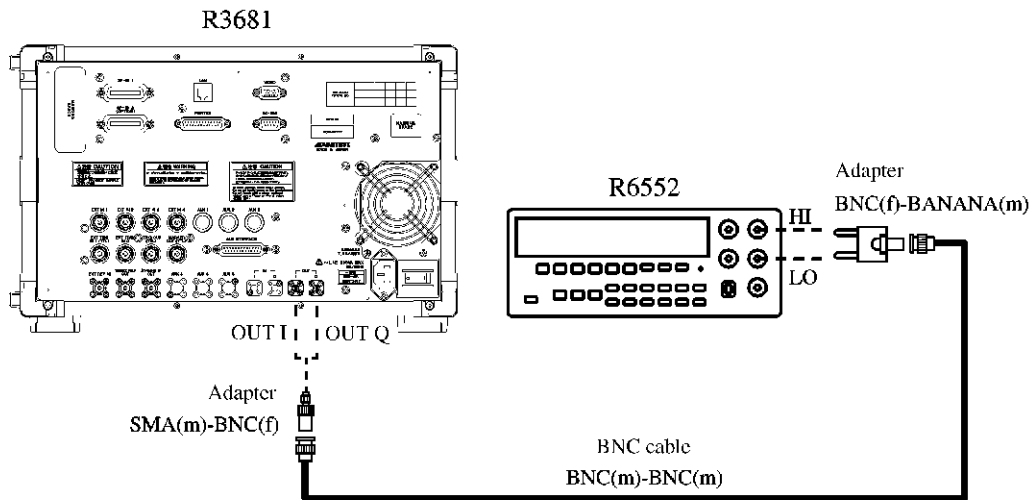

Figure 8-4 DC Offset Verification Connection Diagram
2. Connect the instruments as shown in Figure 8-4.